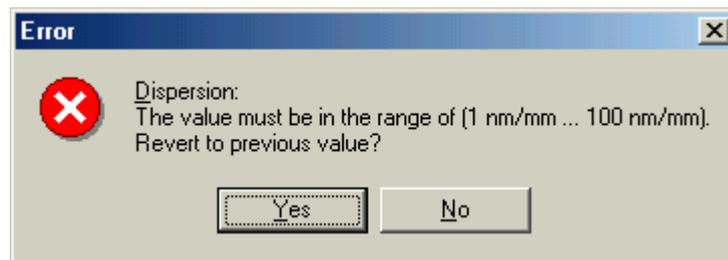

Fig. 3. Value is out of range error.
**ExciPro** validates text in numerical inputs when you finishing dialog box with **OK** button or trying to switch to another page in multi-page dialog box. If input number format is invalid or entered number is out of a legal range **ExciPro** will issue an error message. An example of 'out of range' error is shown in Fig. 3.